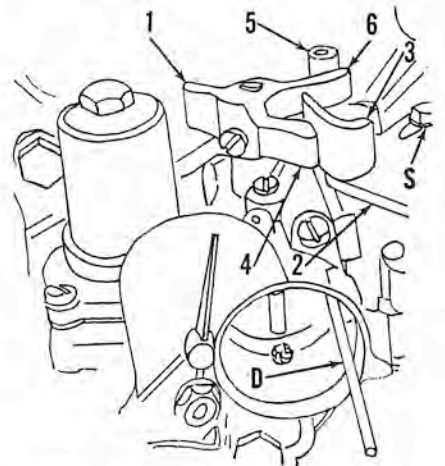

Fig M85—Forward throttle control mechanism used on late models. Refer to text for method of adjustment.
Merc 600, 700 and 800 Direct Reversing: First make certain that distributor is properly timed and adjusted. To synchronize the forward throttle refer to Fig. M85. With the engine not running, move the speed control lever until distributor pilot just touches the maximum advance stop screw. Loosen the screws (S) attaching pickup plate (2) to the sector gear and move the plate until the nylon covered pickup pin (5) is not touching the cluster finger (6); then bend pickup tab (3) in or out until a No. 48 twist drill (0.076 gage) can just be inserted between port side of throttle valve and carburetor barrel as shown at (D). Remove the drill or gage. Move the speed control lever